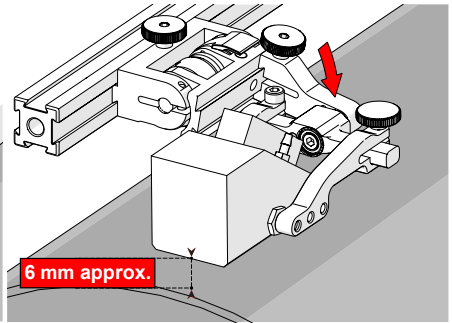

Fig. 50 - Lower to scanning surface
2. Push the probe holder yoke down toward the inspection surface until the wedge is approximately 6 mm (¼ in) above the inspection surface (Fig. 50).